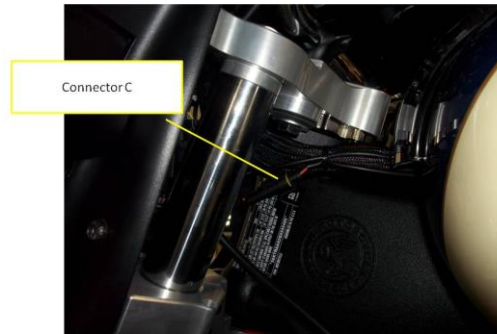

Figure 8
- d. Route the wiring through bike frame to the battery. Battery is located under the seat. Route Connector C wire through the OE plastic tray forward to the steering pivot (Neck). The connector is indicated in Figure 8.